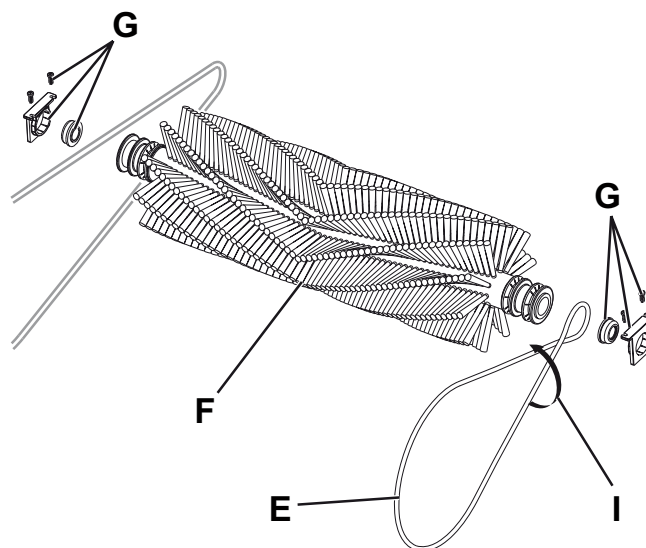

Figure 2
5. Remove the driving belt (E, Fig. 2) from its housing on the main broom (F).
6. Remove the main broom (F) and keep screws, supports and bearings (G) for reassembly.
- Install the short driving belt by crossing it as shown (I, Fig. 2).